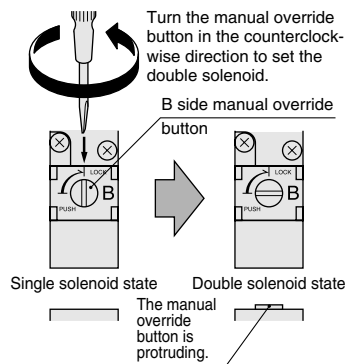

Figure 2
2. As shown in Fig.2, use a small screwdriver, etc. to turn the manual override on the B side by 90 degrees in the counterclockwise direction, so that the manual override slit is horizontal, as shown on the right side of the figure. Then the unit can be used as a double solenoid valve. When using it as a double solenoid valve, the override is used as the manual override for the B side.